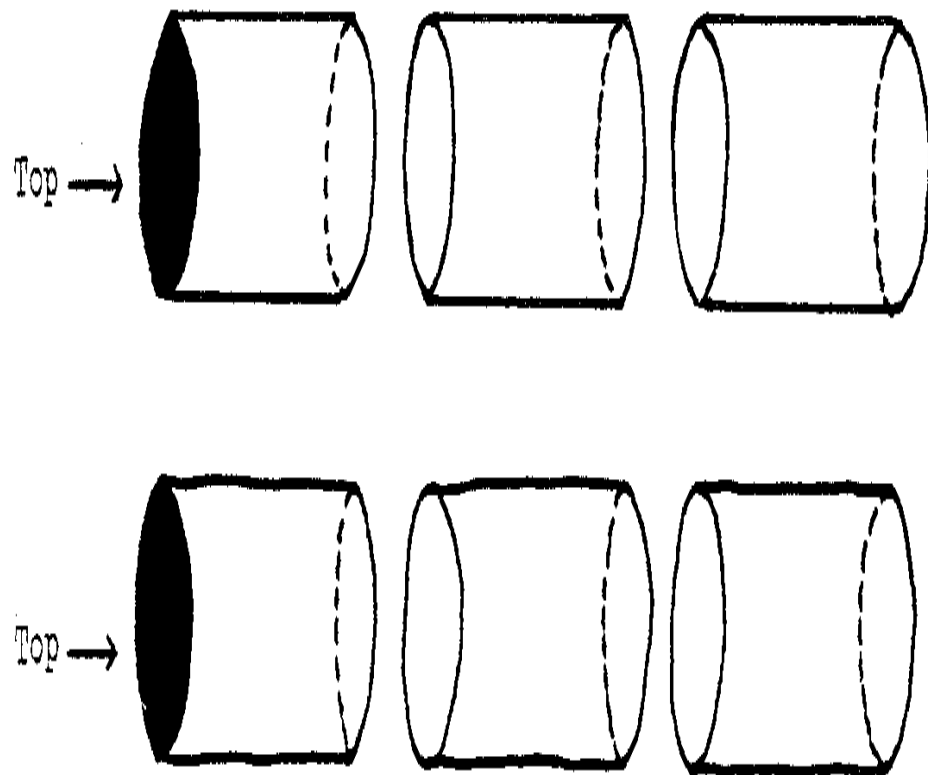

Figure 2
- * Weld together two drums that have no tops or bottoms. Then weld these to one of the two drums that has a top. These three welded drums make one of the two retort chambers. The total volume of each chamber is about 600 liters (165 gallons). <see figure 2>